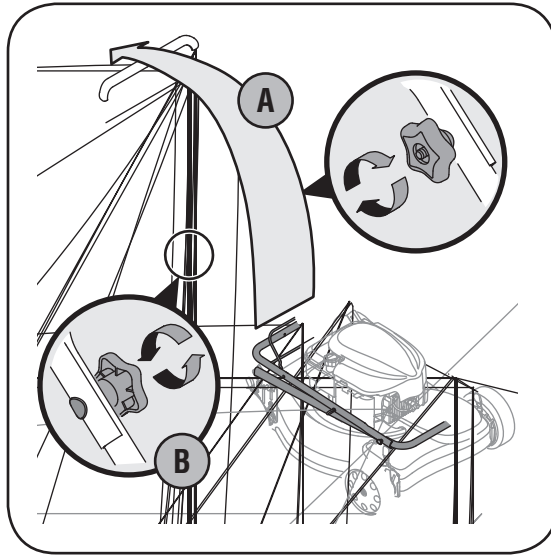

Figure 3-1: Unfold handle and tighten hardware.
- a. Lift the upper handle up from the folded position and pull it back to the extended position, Figure 3-1. Do not crimp cables. The handle should click into this position.